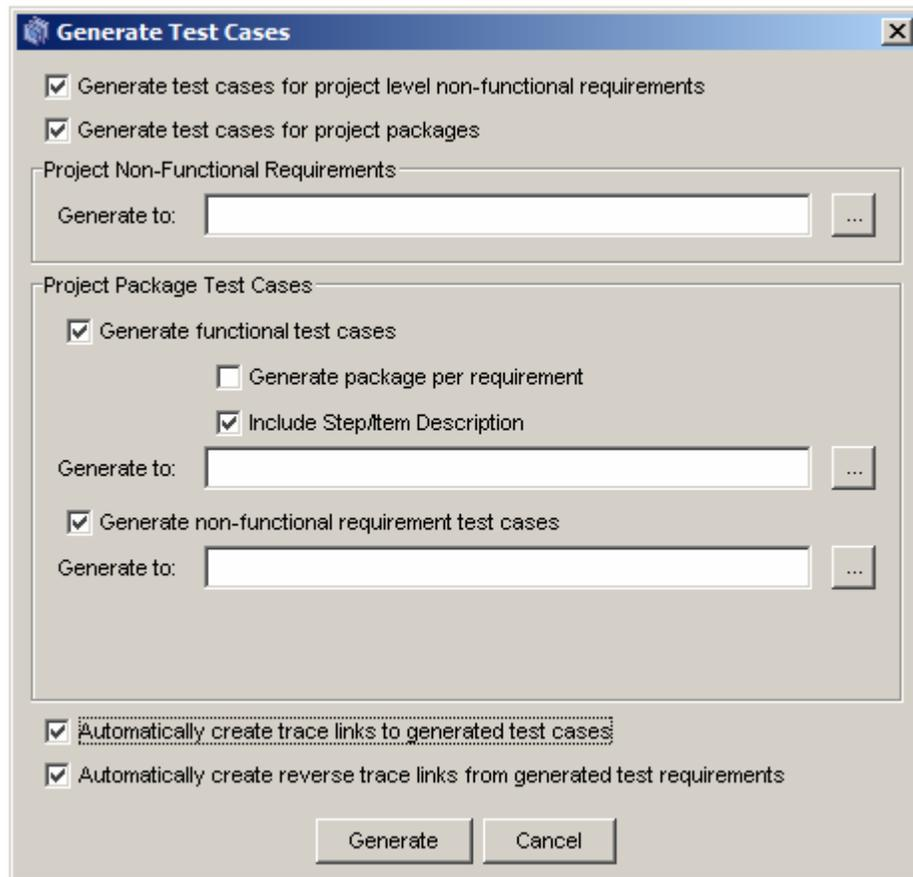

Figure 73 - Generating full Project Test Cases
- Click on the  button in the toolbar (or menu option), and the screen similar to that shown in Figure 73 appears.